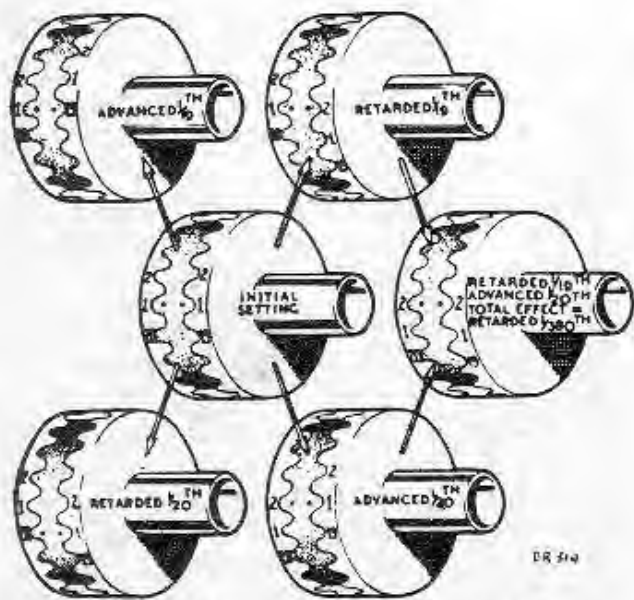

Fig. 4. Adjustment of vernier coupling
46. The magneto half of the coupling has twenty serrations and the engine half has nineteen. Fig. 4 illustrates the cumulative effect on timing of turning only the flexible coupling relative to the magneto and engine portions of the coupling. The markings are for explanatory purposes only and do not appear on the actual engine parts. This diagram refers to the port magneto which rotates in a counter-clockwise direction as viewed from the driving end. Read "retarded" for "advanced" and vice versa when considering the starboard magneto.